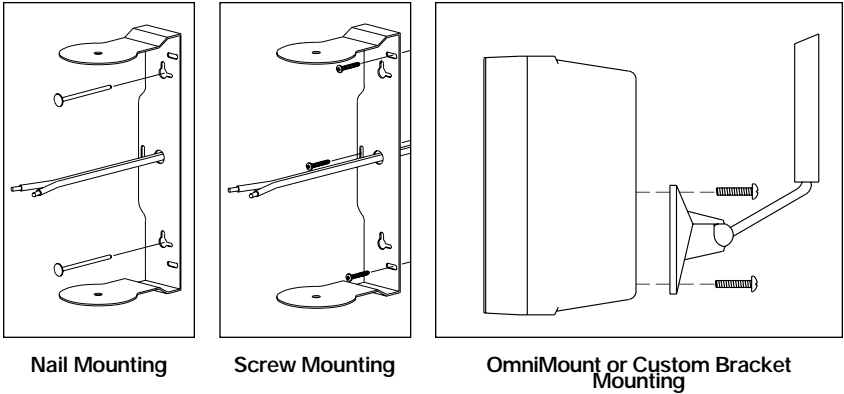

Figure 7 The OS-10 can be mounted three ways.
1. If the speaker is never going to be exposed to sudden accidental impacts, wind, waves or earthquakes you can simply hang it on a nail using the nail hole(s) of the bracket (See Figure 7).
2. The safest and most secure way to mount the speaker is by screwing it to the mounting surface using your own hardware (suitable for the surface you are mounting to) and the bracket supplied with the speaker (See Figure 7).
3. There are threaded brass inserts on the back of the OS-10 for attaching an OmniMount or a custom bracket (See Figure 7). This allows you to position the speaker at unusual angles or distances from the mounting surface.